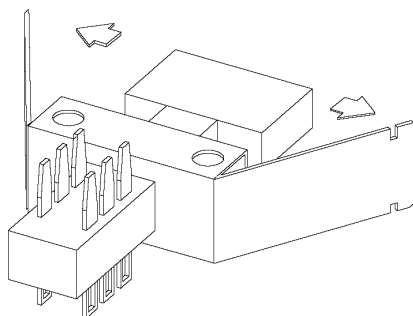

Figure 5-20 Magnified View of Power Switch Tabs
- 3 Spread the Power Switch support bracket tabs outward, as shown in Figure 5-20.